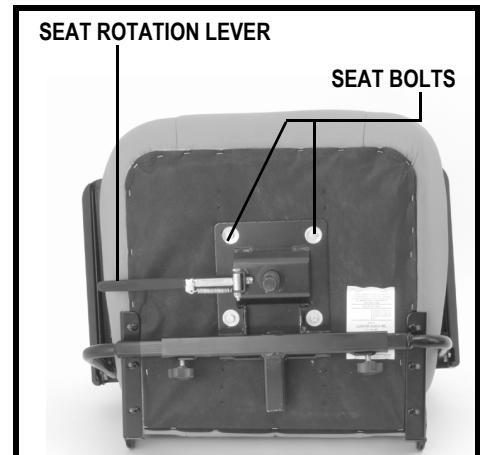

Figure 11. Seat Adjustments
The seat rotation lever secures the seat in one of four positions. See figure 11.
You can reposition the scooter's seat forward or rearward to one of three settings to adjust the distance between the seat and the tiller. See figure 11.
2. Place the seat upside down so that you can see the bottom of the seat base. **See figure 11.**